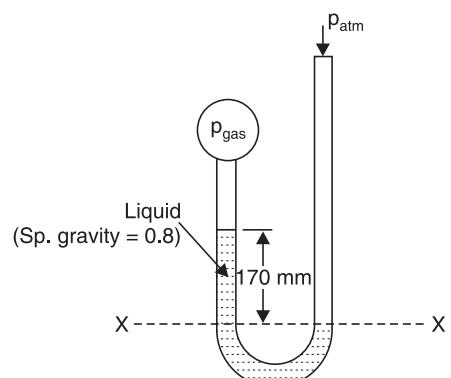

Fig. 1.26
**Solution.** Equating pressure on both arms above the line XX (Fig. 1.26), we get